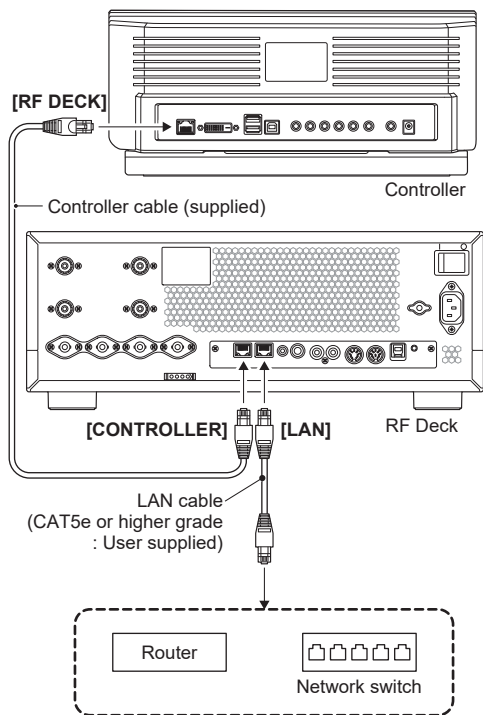

Figure 09-5. Connection to a network switch or router
- 2). Connect the [LAN] port of the RF Deck to your home network switch or router (LAN side) with a commercially available LAN cable (CAT5e or higher grade), leaving the connection in step (1). (Figure 09-5)